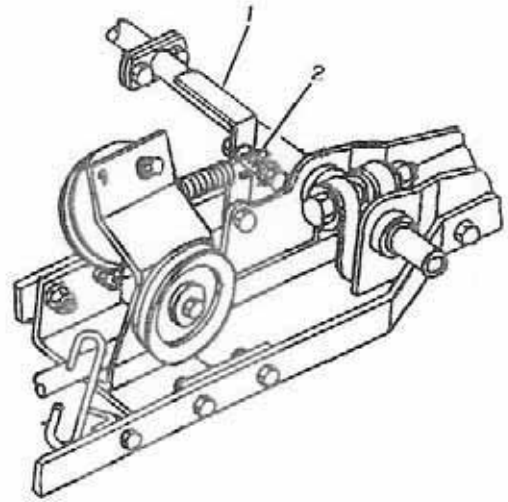

FIGURE 2
- c) Tractor with manual clutch (PTO) Remove the spring tension arm (fig. 2, item 1) and the spring sleeve holder (fig. 2, item 2).